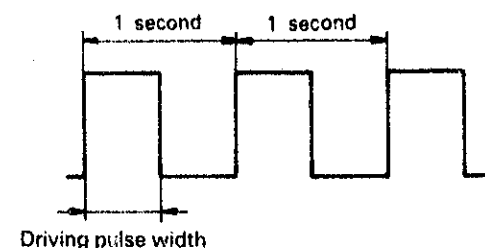

Fig. 1
- In the conventional analogue quartz watch, the width of a driving pulse supplied to the step motor is constant. (Fig. 1)